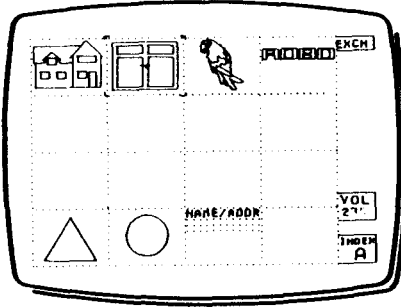

Fig 1
- 1 Select **EXCH** from the Menu, and the library index will appear (Fig 1).